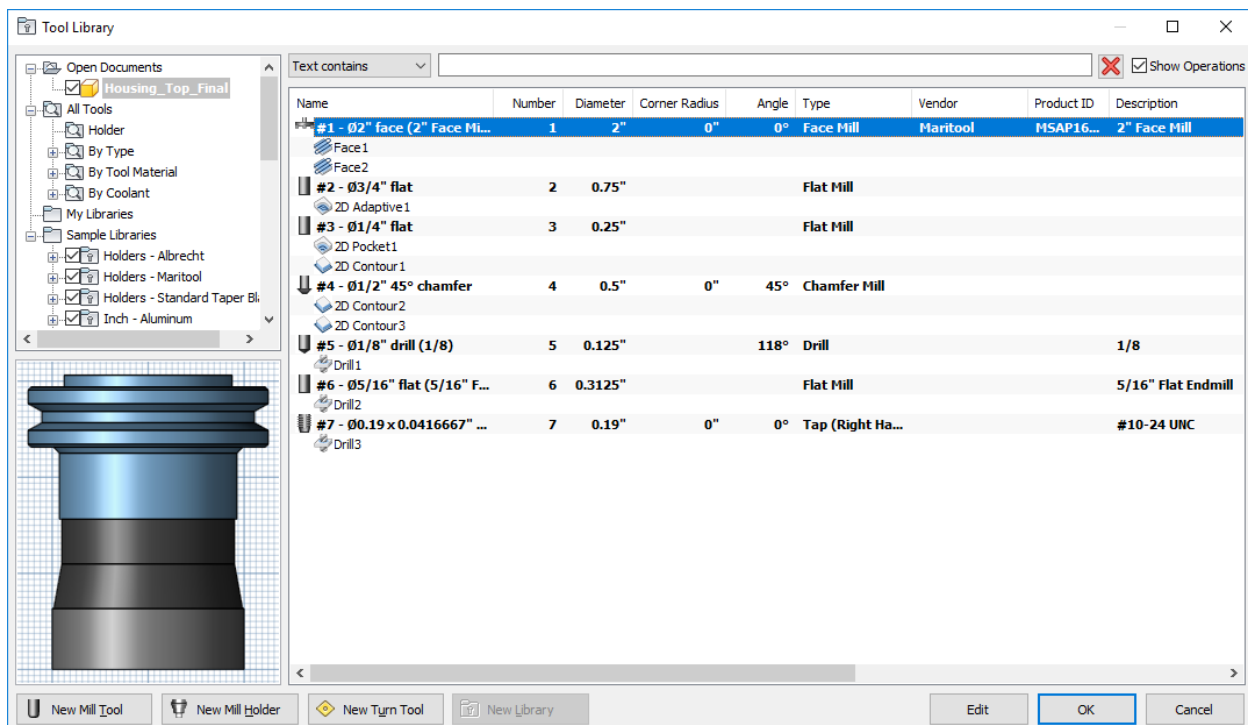

Figure 7
CAM tab>Manage panel, click  (Tool Library). Figure 7 shows the Tool library dialog box and the tools that have been defined for the Housing_Top_Final open document (model).
- Open models are listed in the Open Documents node. For models that already have tools assigned, the Tool Library appears similar to that shown in Figure 7; otherwise, the right-hand pane will be empty until a tool is assigned.